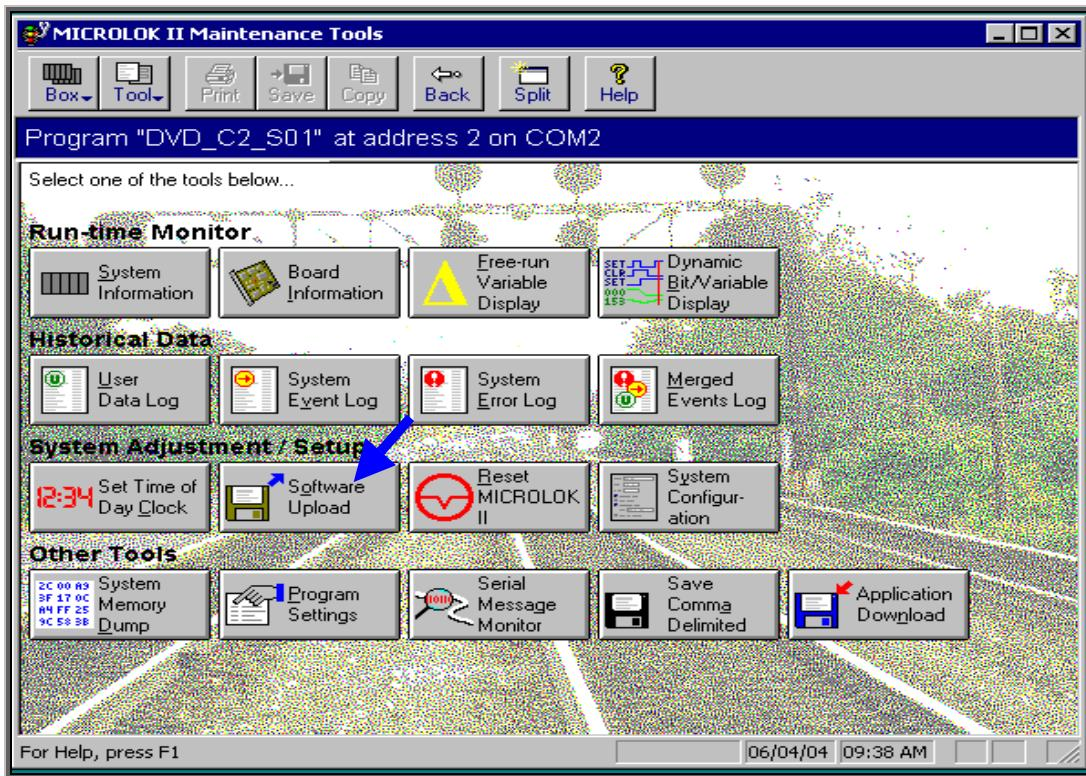

Figure-5.9.3
- ❖ Maintenance Tools main menu with old program file name appears (Figure-5.9.3).
- ❖ Click on the “**Software Upload**” option in the Maintenance Tools main menu (Figure-5.9.3).